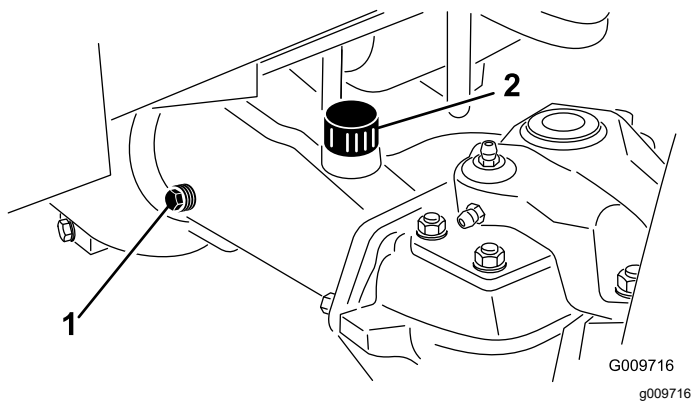

Figure 96
- Remove a check plug from 1 end of the axle housing (Figure 96).